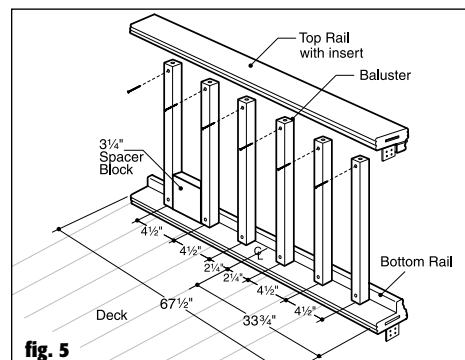

fig. 5
Step 7: Determine the spacing of the balusters, 4-1/2" maximum on-center and equal spacing for the end spacing. Start by finding the center of the rail. Rail length + 2 = center of rail. Start the first balusters 2-1/4" on-center each side of the center line for 4-1/2" on-center spacing. Mark every 4-1/2" to each end. This will leave the end spacing 4" or less on both ends and require 14 balusters (Figure 5). **Tip:** Cut a (3-1/4") spacer block for the spacing between balusters.
Step 12: Drill holes in all balusters 3/4" from each end, on-center, using a 13/64" drill bit. Place balusters on the bottom rail on-center of the marked positions (4-1/2" on-center). Start at the center of the rail and work out to the ends. Using the baluster as a guide, drill 1/8" holes in the bottom rail at each baluster location 1/2" deep. Use a spacer block to space next baluster. Working toward the ends, drill and attach each baluster with 1-3/4" long screws, except for attaching the last two on each end (Figure 5).